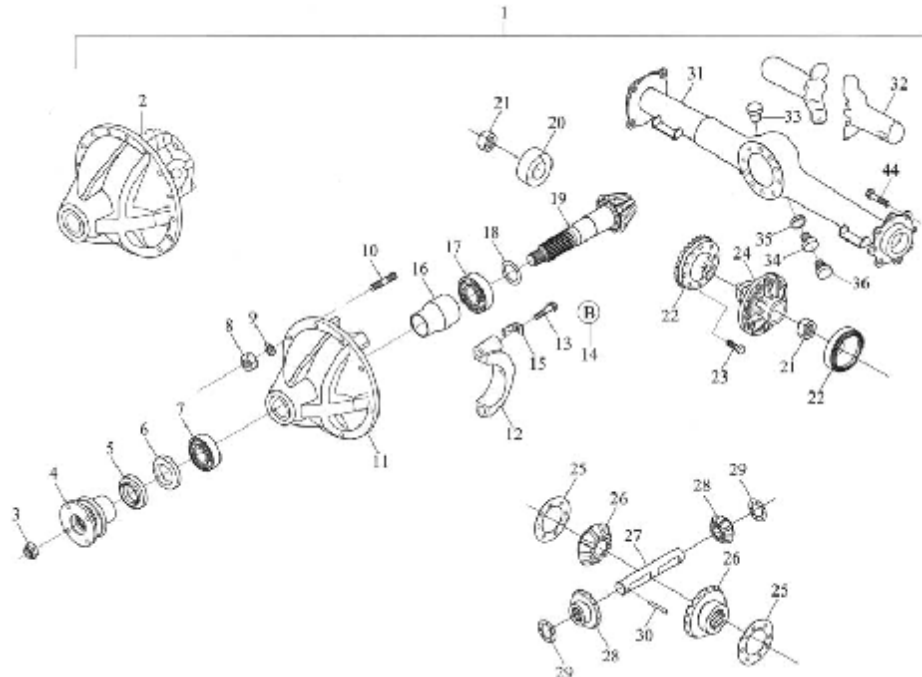
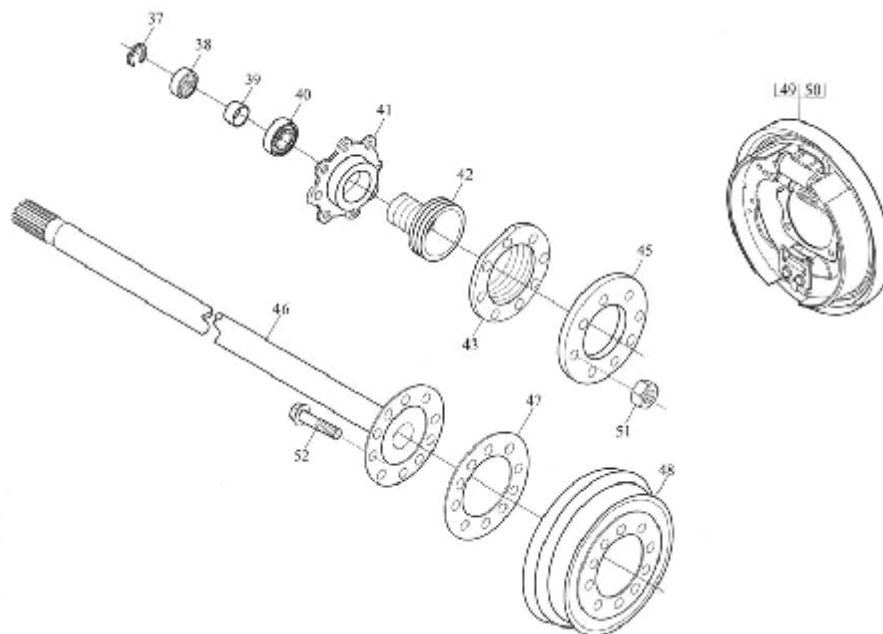
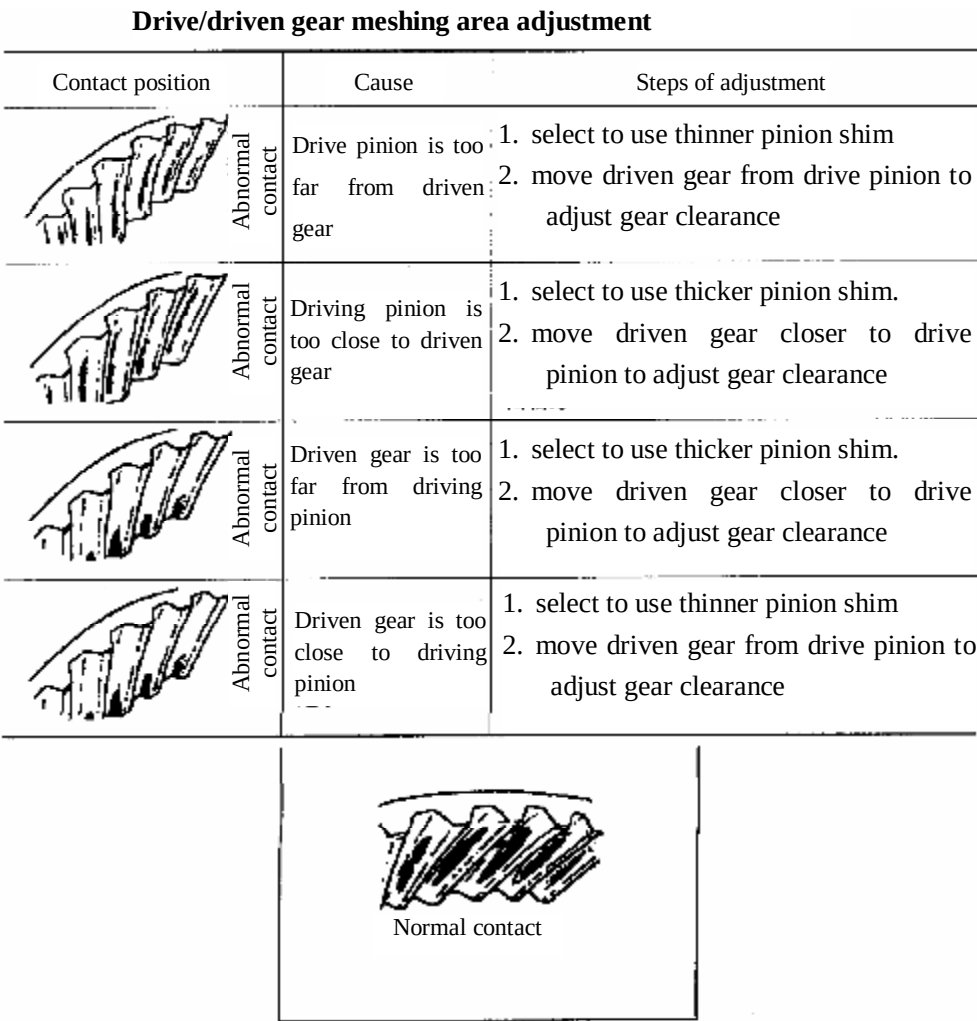

Figure 10-4-1 Rear Axle Assembly (1)
Figure 10-4-2 Rear Axle Assembly (2)
Figure 10-4-3 Adjust meshing area of drive/driven bevel gear
BJ6486, BJ6516 series light bus is equipped with non-divided driving axle, single stage hypoid gear final drive, bevel planetary gear differential, semi-suspension halfshaft, integral stamping and welding axle housing and common rear wheel hub etc., see Figure 10-4-1, Figure 10-4-2 and Figure 10-4-3.
The function of final drive is to decelerate, increase torque and change direction of power transfer, and finally transfer power to driving wheels to push the vehicle to run. BJ6536 series bus applies single stage hypoid gear final drive. Its structure is shown in Figure 10-4-1. It consists of a pair of hypoid gears (driving and driven gears) and supporting device. The driving bevel gear is integrated with its shaft, its front spline connected with half shaft through the driving gear flange, and it is supported on the bearing carrier through two bevel roller bearings. Driven bevel gear is connected to differential housing with bolts; and the differential is supported in the mounting hole of axle housing through two bevel roller bearings. The projection of driving gear bearing can be adjusted by inserting the adjusting washer between the internal bearing carrier. There are interconnected oil passage between the bearing and the final drive housing.
2. Differential (see Figure 10-4-2)
See Figure 10-4-3 for check and adjustment methods for tooth face contact area of driving and driven bevel gears and side clearance.